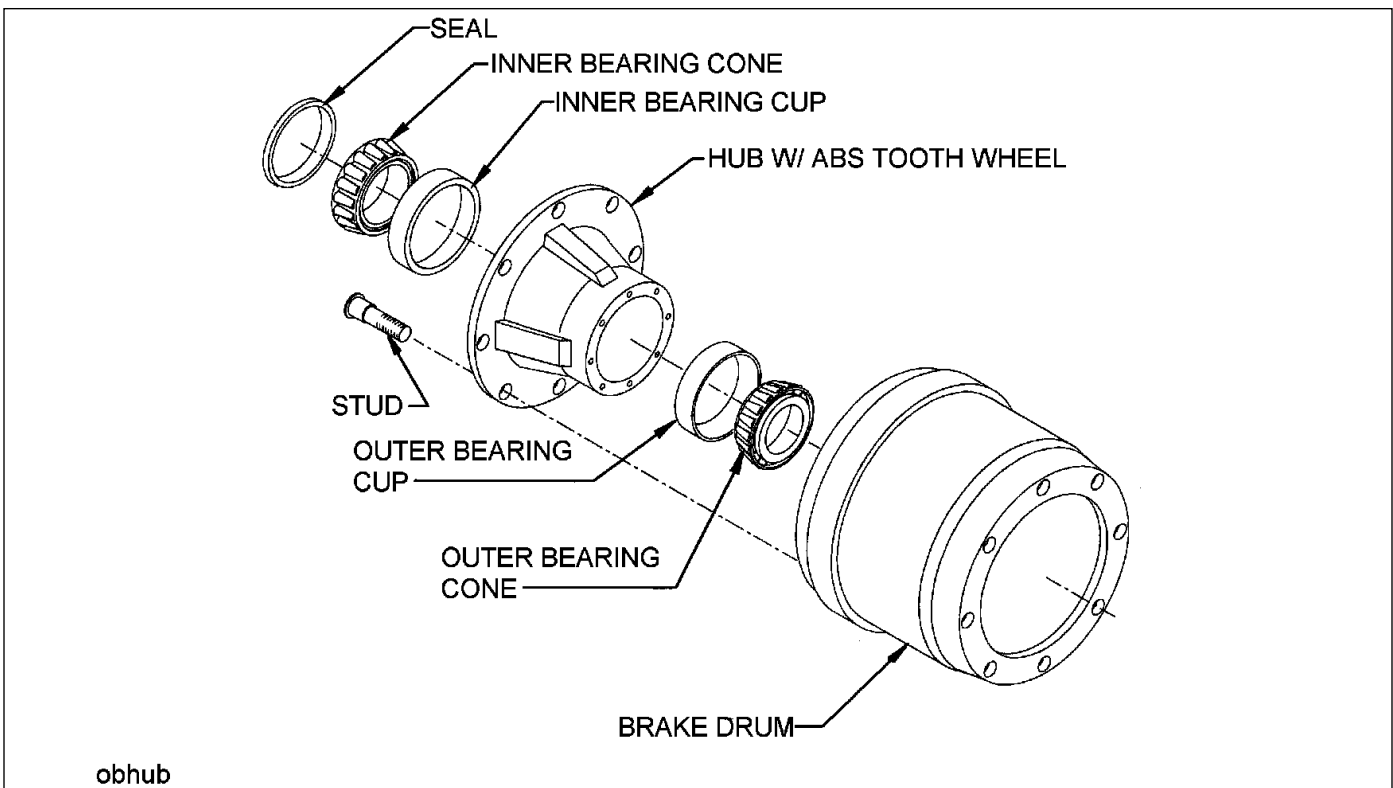

Figure 4-15: Outboard Mount Hub and Drum
7. Replace the hub and drum as follows (See Figure 4-15.):
- Remove the brake drum (See Figure 4-15.) It may be necessary to release the slack adjuster.